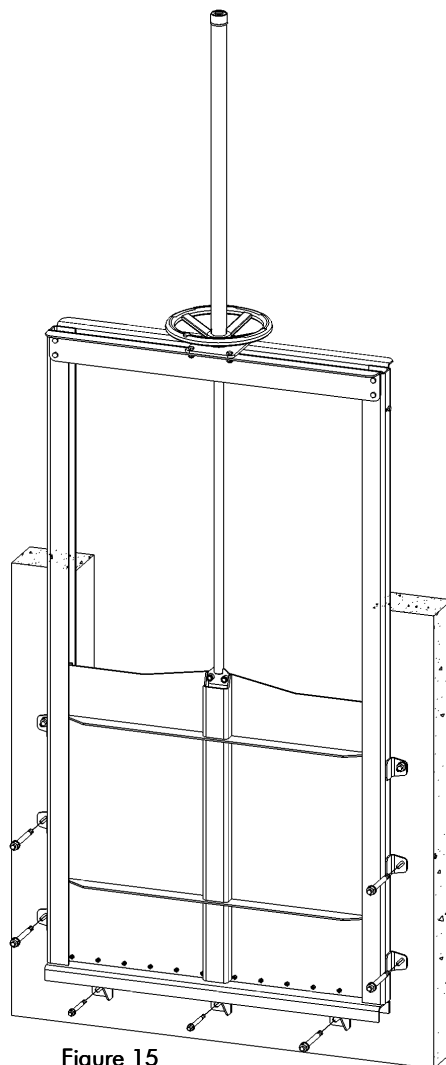

Figure 15
- Drill and install the rest of the anchor bolts (see Figure 15).